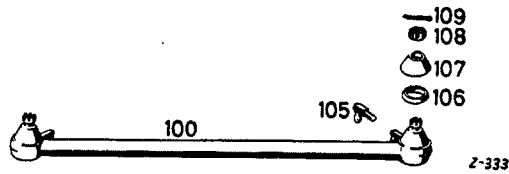

Fig. L 9/1
2. Remove the sealing covers (106) and the rubber cuffs (107) (Fig. L 9/1).
5. Place a sealing cover (106) and a rubber cuff (107) on each of the ball-heads. Press the center tie-rod into the steering gear arm and the steering relay arm (Fig. L 9/1).